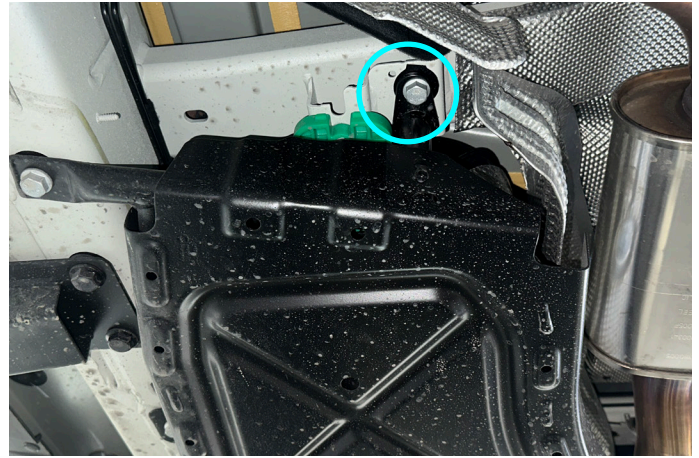

Fig. 2
2. Loosen front factory bolt as shown in fig. 2